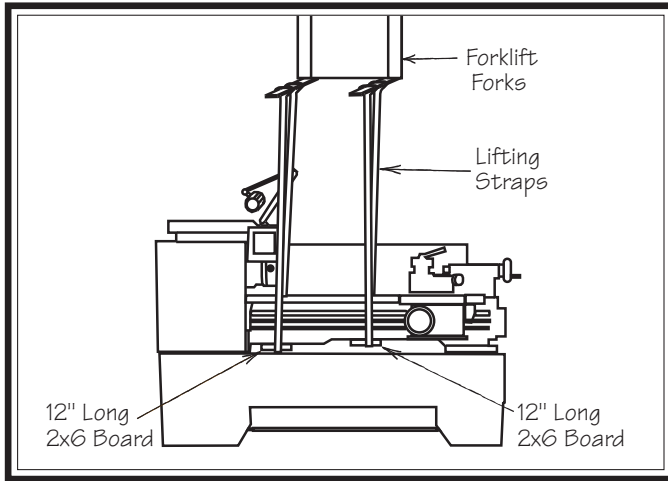

Figure 19. Lathe set up for lifting with forklift.
- Attach the lifting straps to the forklift forks or a hook and chain, as shown in **Figures 19–20**.